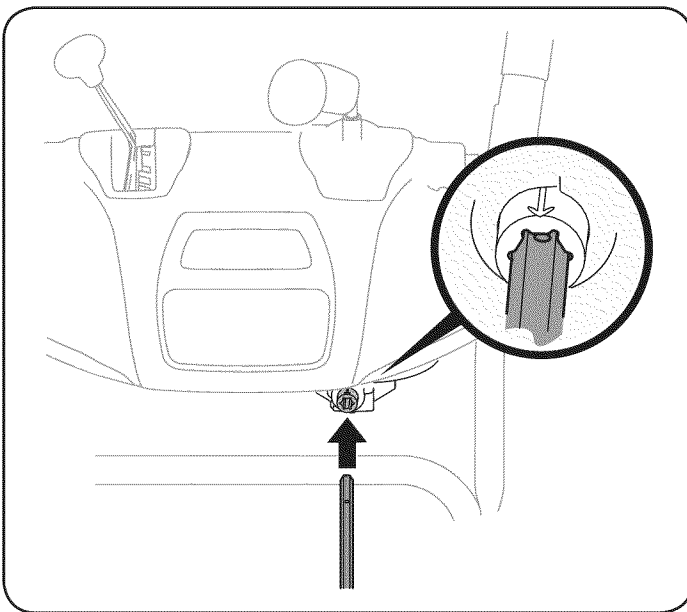

Figure 7
7. Make sure all cables are routed to the left of the chute control rod. Line up the hole in the hex end of chute rod with the arrow on the input shaft and insert the hex end of the rod into the input shaft below joystick on handle panel. See Figure 7.